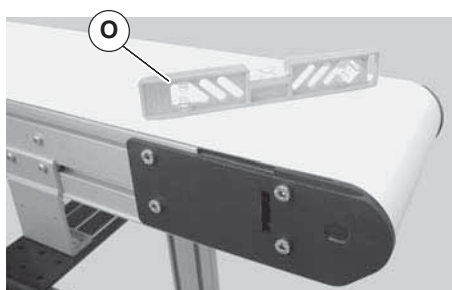

Figure 3
1. Locate components (Figure 3).